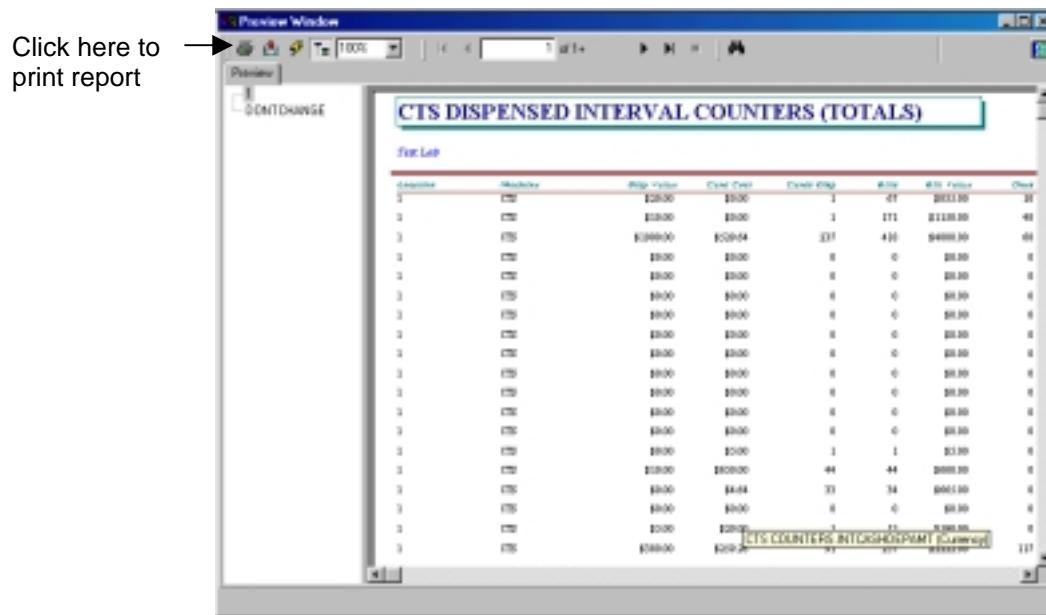

Figure 9.21 Viewing the Cash CTS Report
3. The report will be generated and appear on the screen. You can either view it on the screen, or click the printer icon to print the report (Figure 9.21).